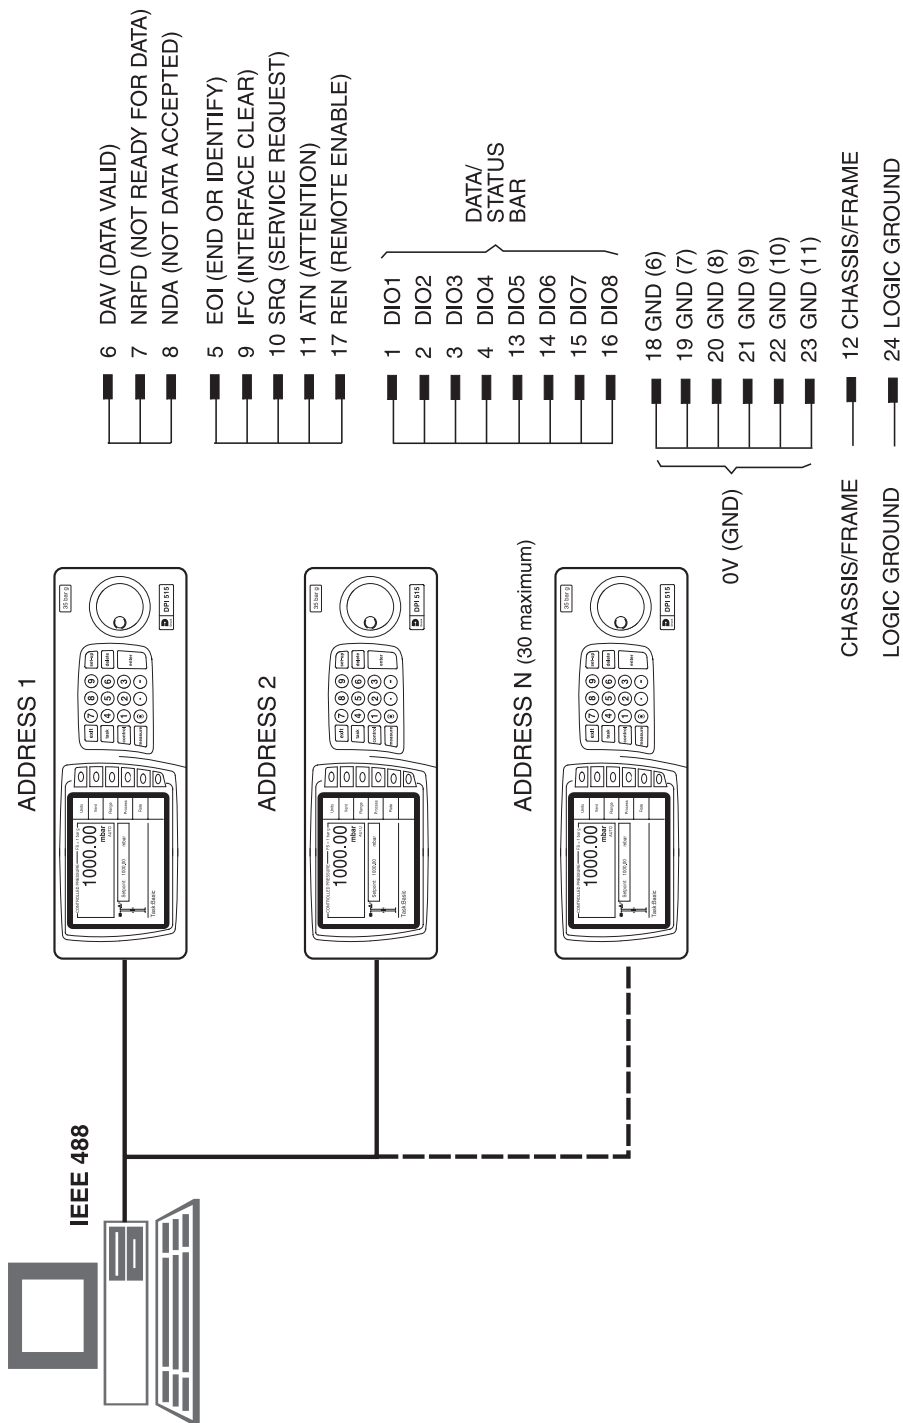

Figure 2-10 - IEEE 488 Connection
2.8 IEEE 488 Interface (Figure 2-10)
Single Unit Installation (Fig 2-10)
Multiple Unit Installation (Figure 2-10)